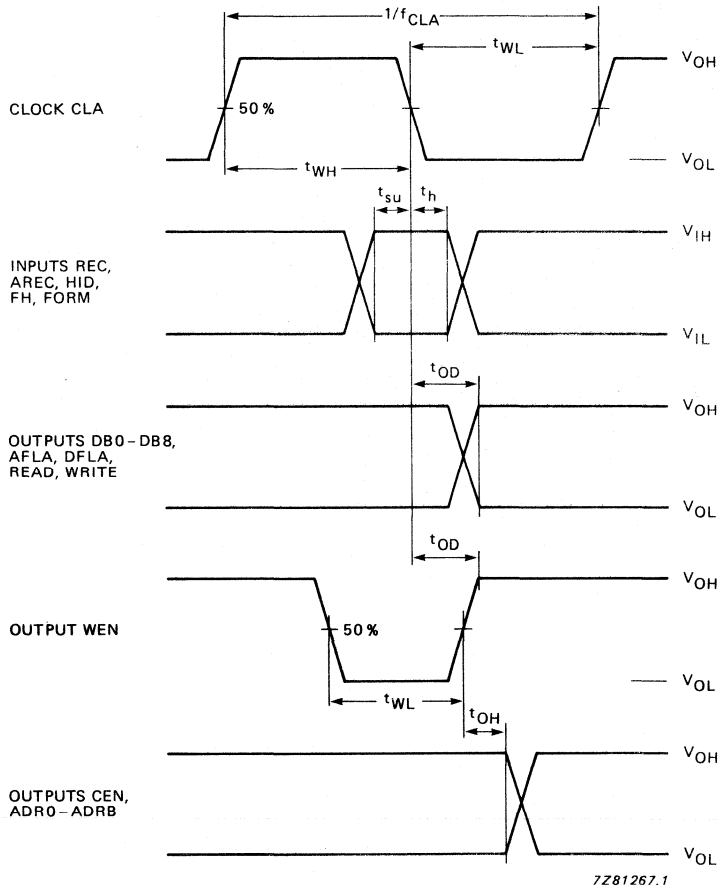

Fig. 6 Waveforms showing the input set-up and hold times, clock (CLA) to output propagation delays and output transition times (all levels are CMOS).
**A.C. CHARACTERISTICS** (Fig. 6)